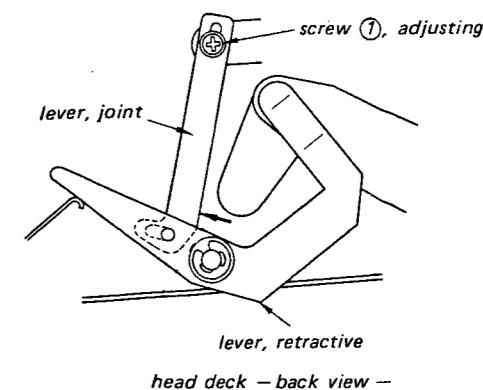

Fig. 8-6 Pinch roller stroke adjustment
- (3) Fix the screw ① while pushing the joint lever in the direction shown with arrow in Fig. 8-6.